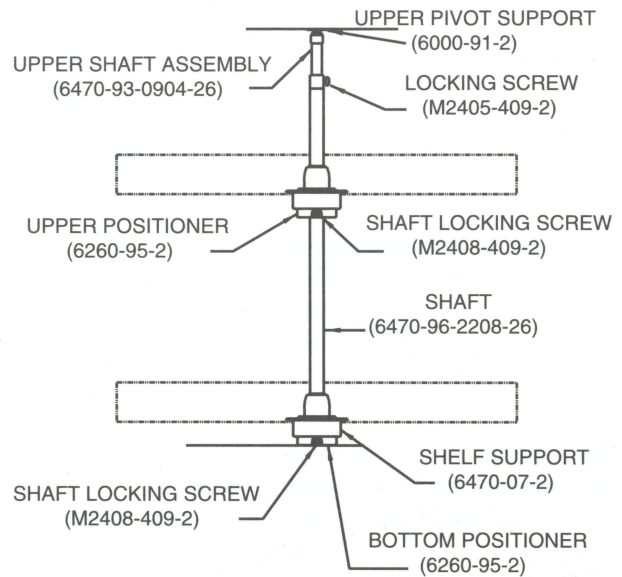

FIGURE 2
3. Insert the upper shaft assembly into the top end of the shaft. Loosely install the lock screw. Insert the shaft/tray assembly into the bottom positioner. Extend the upper shaft assembly to engage the upper pivot support (See Figure 2).
6. Using (4) 3/4 x #8 oval hd. screws (P/N F1208-13-2), install the positioner base (P/N 6260-95-2), making sure the adjustment screw (P/N M2408-409-2), is facing to the front. See Figure 2 of instructions.
7. Using (4) 1/2 x #8 oval hd. screws (P/N F0808-13-2), repeat Steps (3 thru 5) at the top of the cabinet and install the upper pivot support (P/N 6000-91-2).